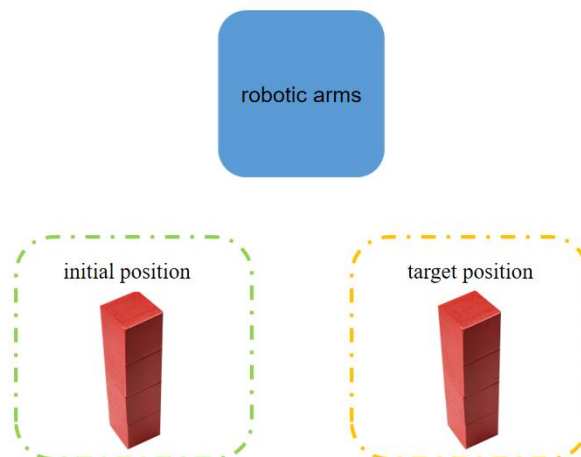

Figure 2.25 Experiment map
(1) Prepare Hardware
Step 1: Design the experiment map and place the equipment. Refer to Figure 2.25 for the experiment map.